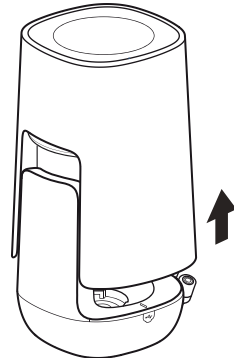

Figure 3.25 – Removing Shroud
3. Remove shroud by lifting shroud straight up and away from the filter base (see Figure 3.25).